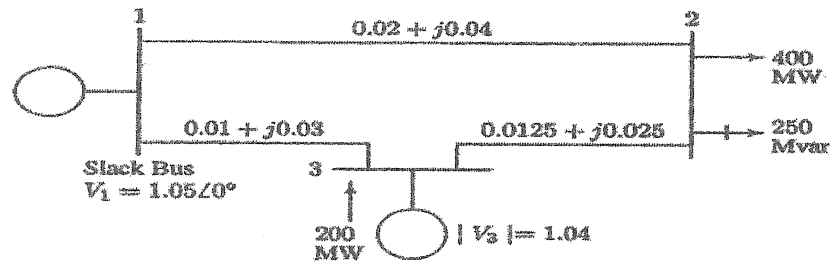

Fig. 5
- 8 Fig. 5 shows the one-line diagram of a simple three-bus power system with generation at bus 1 and 3. The magnitude of voltage at bus 1 is adjusted to 1.05 p.u. Voltage magnitude at bus 3 is fixed at 1.04 pu with real power generation of 200 MW. A load consisting of 400 MW and 250 Mvar is taken from bus 2. Line impedances are marked in per units on a 100 MVA